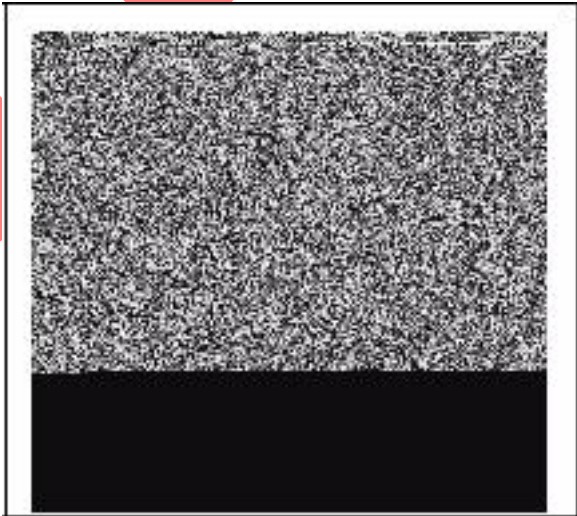

Fig. 132
Remove fuel bowl screws (G) and separate fuel bowl (H) and solenoid (E) from the carburetor body (I) Fig. 132).
Remove the solenoid (E) from the fuel bowl (H) Fig. 132).